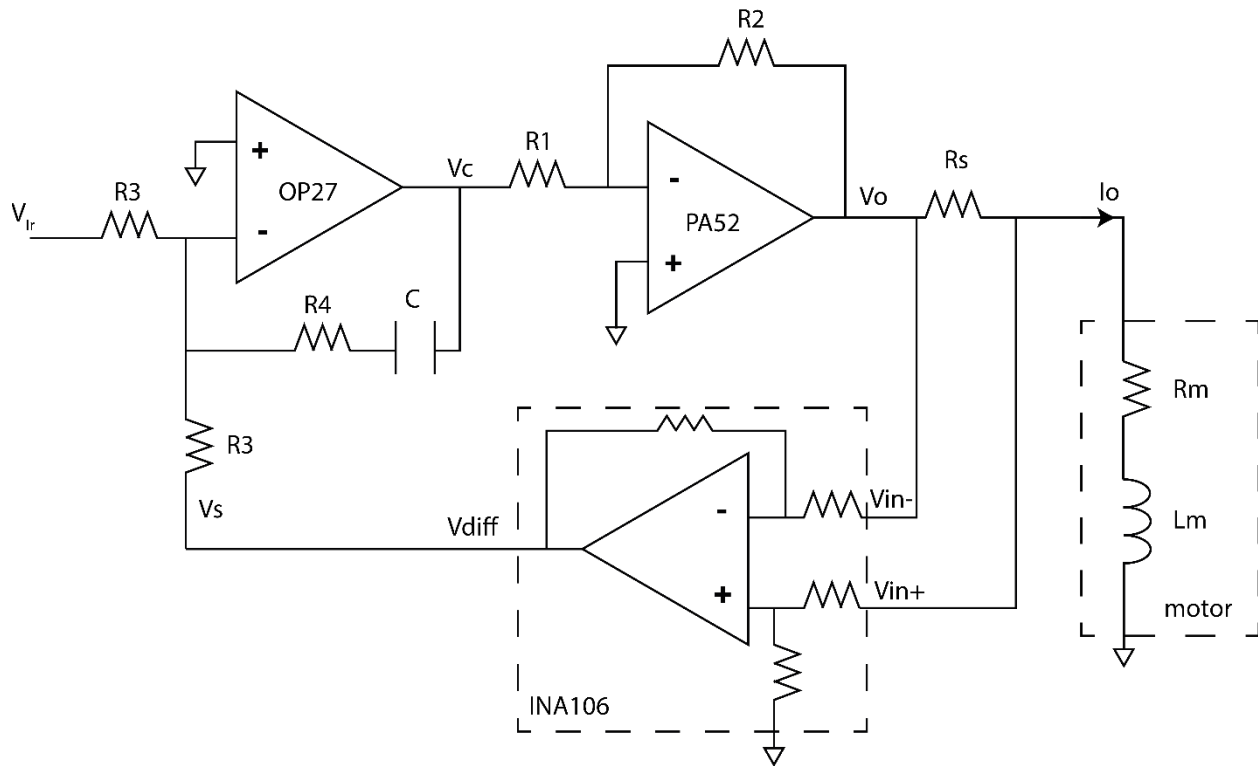
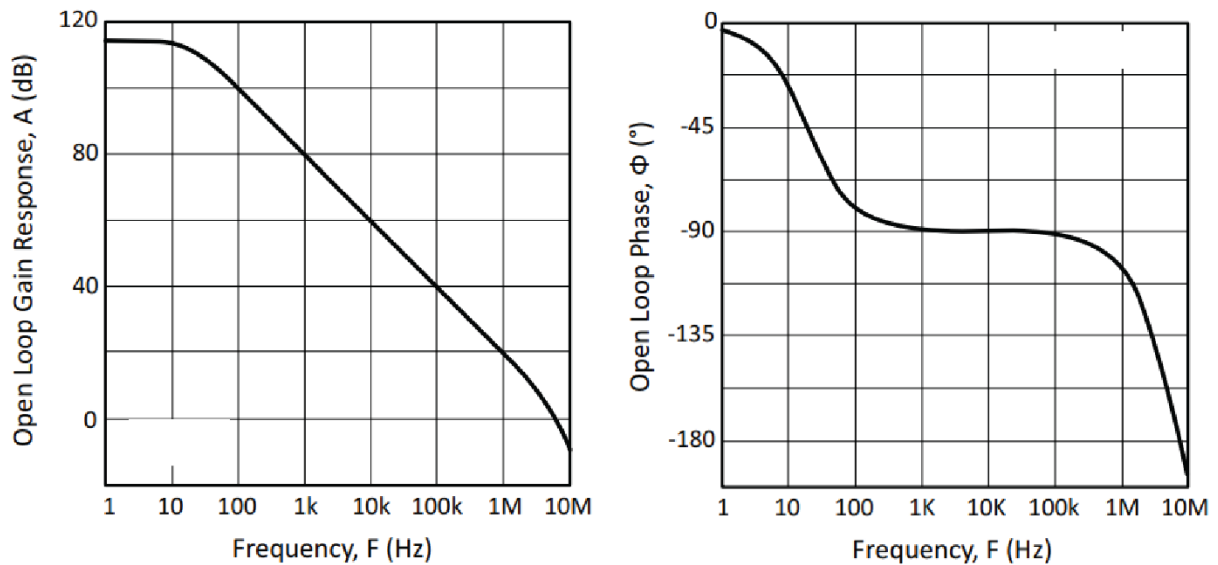

Figure 1: A motor power amplifier with a current controller.
Figure 2: PA52 frequency response.
In Figure 1, OP 27 is considered as an ideal op-amp to implement current controller. PA52 is a high power op-amp to drive the motor, and Figure 2 describes its frequency response. In this circuit PA52 is not an ideal op-amp. INA106 is a difference op-amp with a fixed gain of 10 ($K_g=10$), and its functions follow the equation: $V_{diff} = K_g(V_{IN+} - V_{IN-})$. L_m and R_m are motor's inductance and resistance. R_s is the current sensing resistor. **$L_m=6\text{mH}$, $R_m=3.9\Omega$, $R_s=0.1\Omega$.**
1). (30 marks) Draw a block diagram for the whole circuit in Figure 1. Clearly label the following signals:
2). (30 marks) Consider voltage stage only, which is an inverting amplifier circuit; the input is V_c and the output is V_o . PA52 frequency response is shown in Figure 2 below.